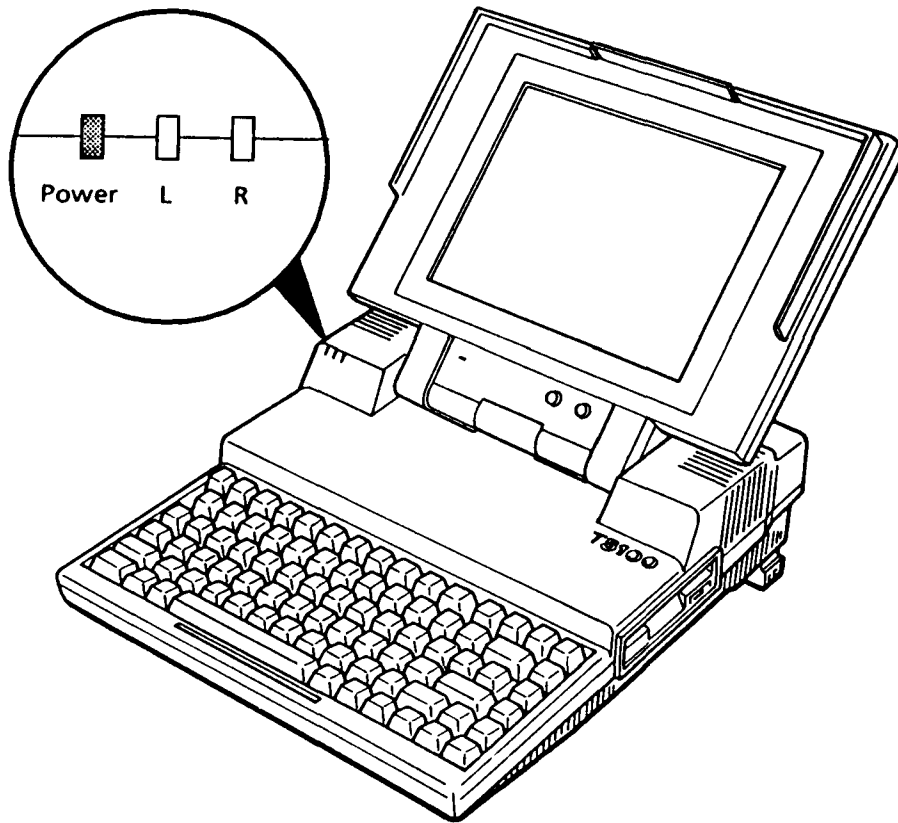

FIGURE 2-2 Power Indicator
2. If the power indicator (see figure 2-2.) lights, go to PROCEDURE 3.